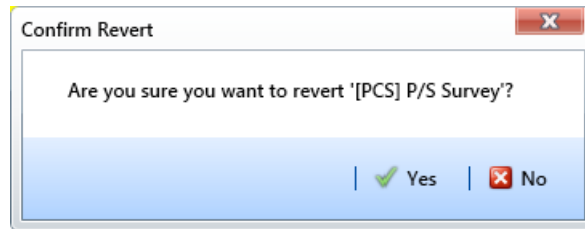

Figure 14-2. Confirm Revert
- Click  **Revert**, then click  **Yes** when the *Confirm Revert* message displays (Figure 14-2).